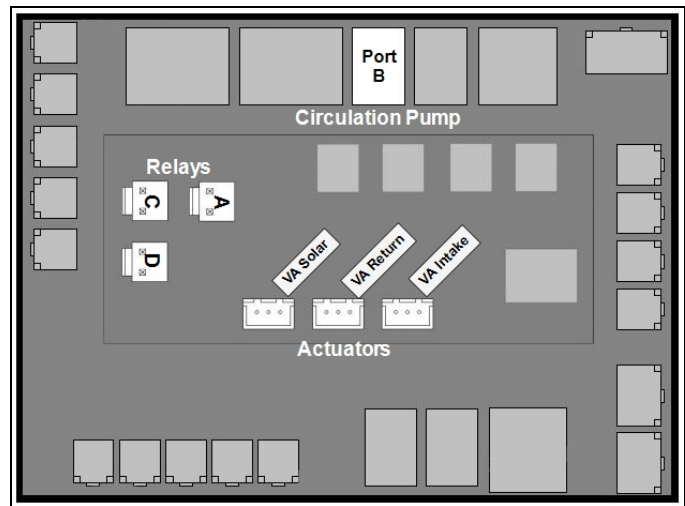

Figure 2 - Device Connections
11. Attach device wires to the expansion board. Figure 2.